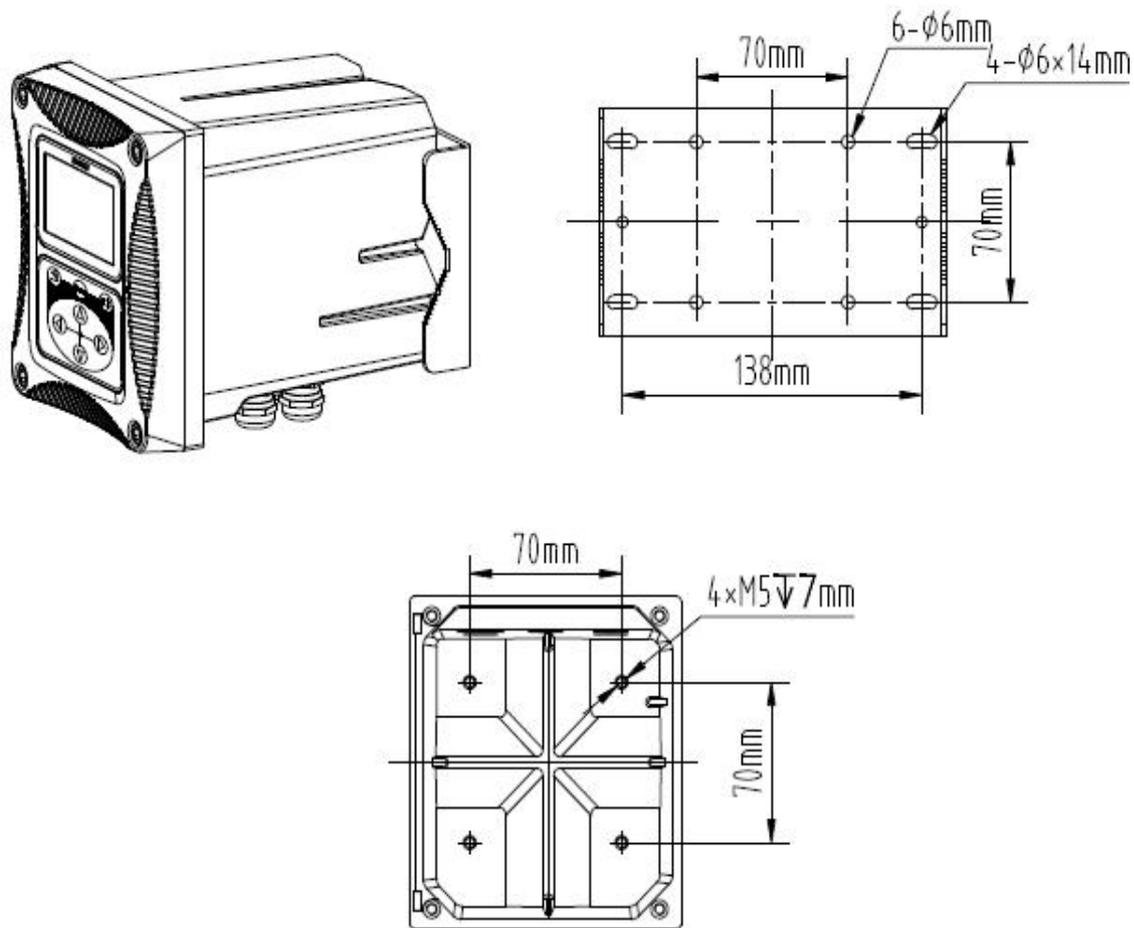

Figure 3 Installation Size
② **Figure 3 shows the transmitter installation size.**